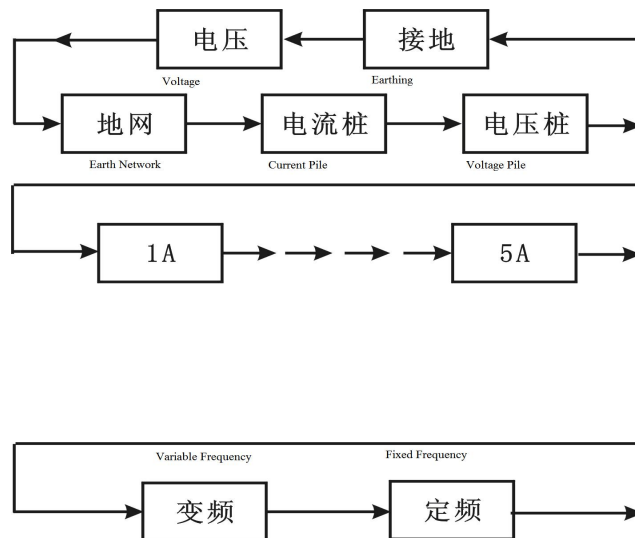

Fig. 7 Parameter Setting Flow Diagram
- (iii) At the item indicated by the cursor, press  or  key can alter the menu of the item, and indicate in circulation, the flow is as shown in Fig. 7.